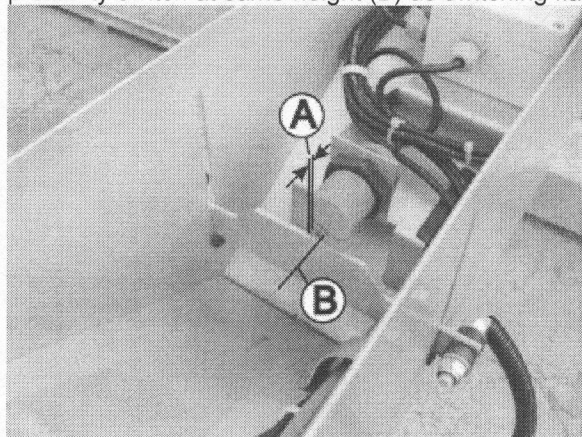

Fig. 090
3. Set distance (A) of proximity switch to the safety switch at 4 mm. Set lower edge of the proximity switch at same height (B) as switching flag (Fig. 090).